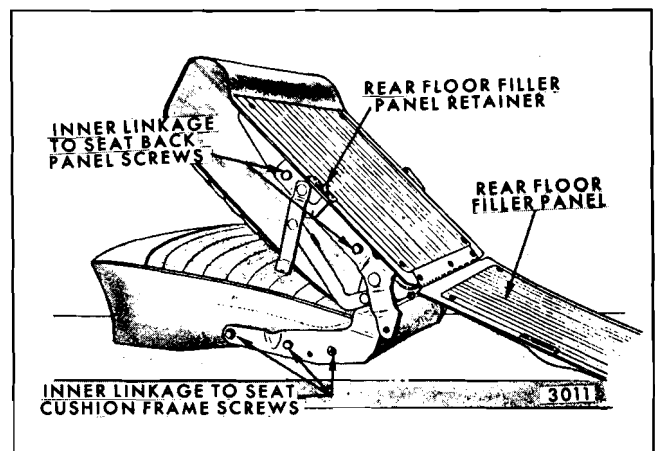

Fig. 15-88—Folding Second Seat Cushion Assembly (Right or Left Side) - Vista Cruiser and Sport Wagon Styles
3. Remove three screws securing seat inner link to cushion frame (Fig. 15-88); then remove seat cushion and frame assembly from linkage. If required, remove cushion front and rear floor pan linkage.
3. Remove seat inner linkage-to-seat back panel and seat cushion frame attaching screws (See Fig. 15-88); then, disengage and remove side linkage from seat.